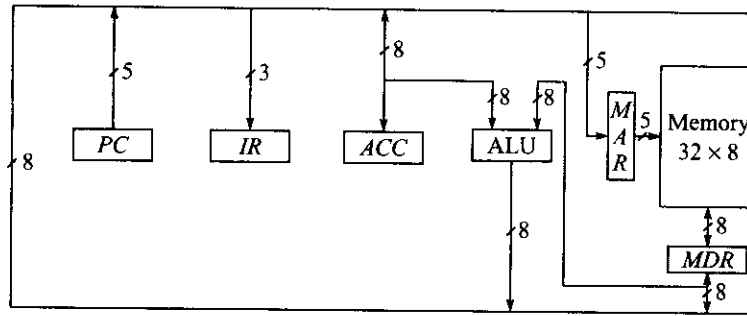

Fig. 16.2 Data path of the simple computer
From this discussion we can draw the *data path* of our simple computer as shown in Fig. 16.2. Here, by data we mean address, opcode as well as operand and they move from/to memory, register, ALU, etc. Of course, we need another set of path to send control signal to various hardware to carry out microoperations. This is called *control path* and we'll design it when we define the instruction set for our computer.
Find in Fig. 16.2 the direction of arrow that shows the direction of data flow. Note that, *IR* and *MAR* can only receive data from BUS; *PC* can only send data by BUS; *ACC* and *MDR* can do both;
Let us first see when parallel load control of IR is to be activated. We find from discussion of previous section, only during T_2 it is loaded. So TSD (Timing counter decoder) output T_2 can be directly connected as parallel load control input of IR . Every time T_2 is active this loads three MSBs of BUS (data path is such, refer to Fig. 16.2), which at that time holds MDR value, into IR . Obviously, at that time BUS selector (BS) should place content of MDR into BUS. This we'll discuss while designing control for BS.